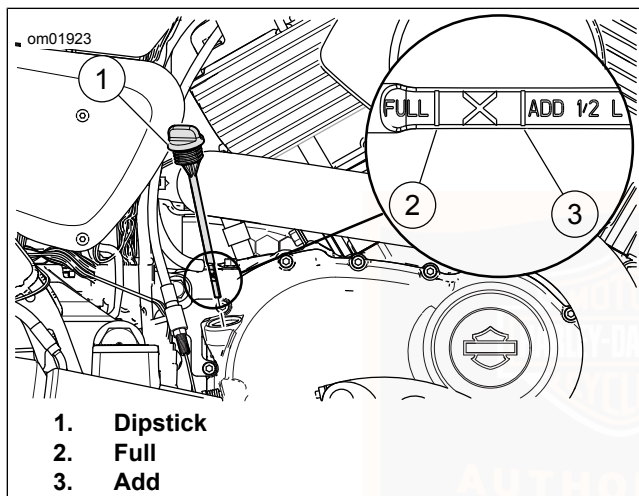

Figure 29. Engine Oil Level
2. See Figure 29. Remove dipstick (1) and wipe clean.
3. See Figure 29. Remove dipstick (1) and wipe clean.